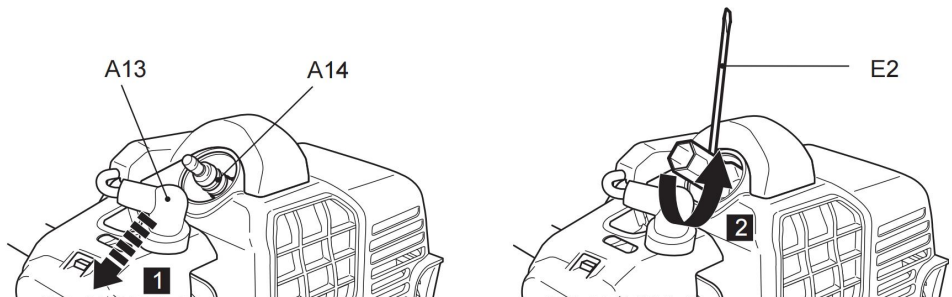

Fig. 78
2. Loosen the spark plug (A14) anticlockwise using the multi tool (E2) and remove it carefully (Fig. 78).